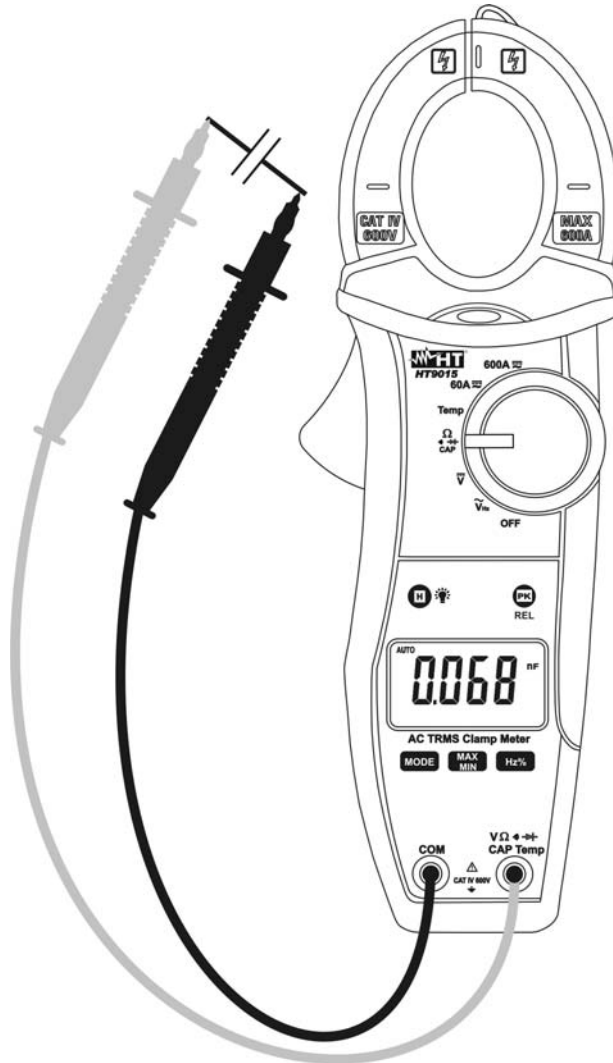

Fig. 7: Taking Capacitance measurement
3. Insert the red test lead plug into $V \Omega \cdot \text{Hz} \cdot \text{Temp}$ \rightarrow **CAPHz%Temp** jack and the black test lead plug into **COM** jack (Fig. 7)